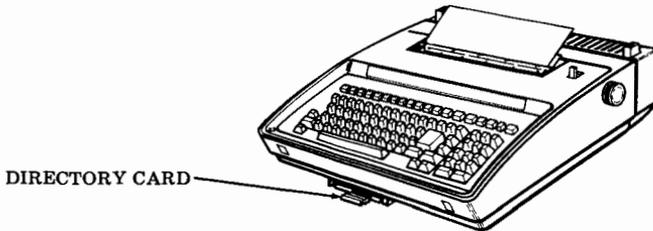

Fig. 3—Directory Card Location
3.03 After enabling the engineering options, remove the directory card (see Fig. 3) and fill in the appropriate option information. See Fig. 4 through 7 for examples of the various directory cards. To remove the directory card, pull it out as far as it will go, then by holding card at edges, move it slightly to one side and pivot to clear the opposite latch. After filling in the options information replace the directory card "Frequently Called Numbers" side up.